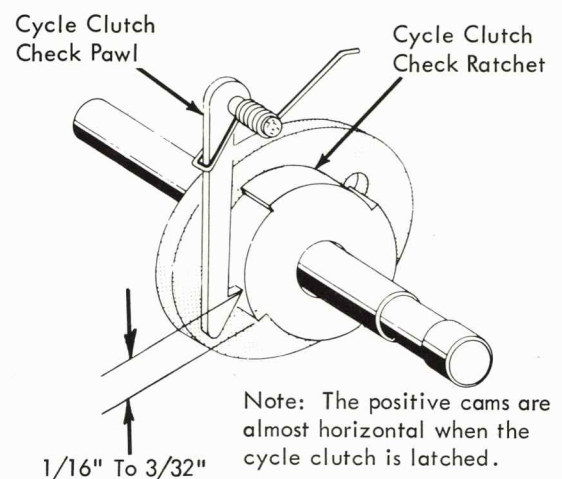

FIGURE 43. Radial Position of Cycle Clutch Collar
- c. Radial position of the collar - (The position of the collar directly controls the radial position of the left hand end of the cycle clutch spring with respect to the cycle shaft. It determines how much the clutch spring will be expanded when the cycle clutch is latched and the cycle shaft is in its rest position). Adjust the collar so that when a zero tilt, negative-five rotate character is hand cycled the cycle clutch spring will begin to slip (expand) when the cycle shaft is 1/16" to 3/32" from its rest position measured on the surface of check ratchet (Fig. 43).